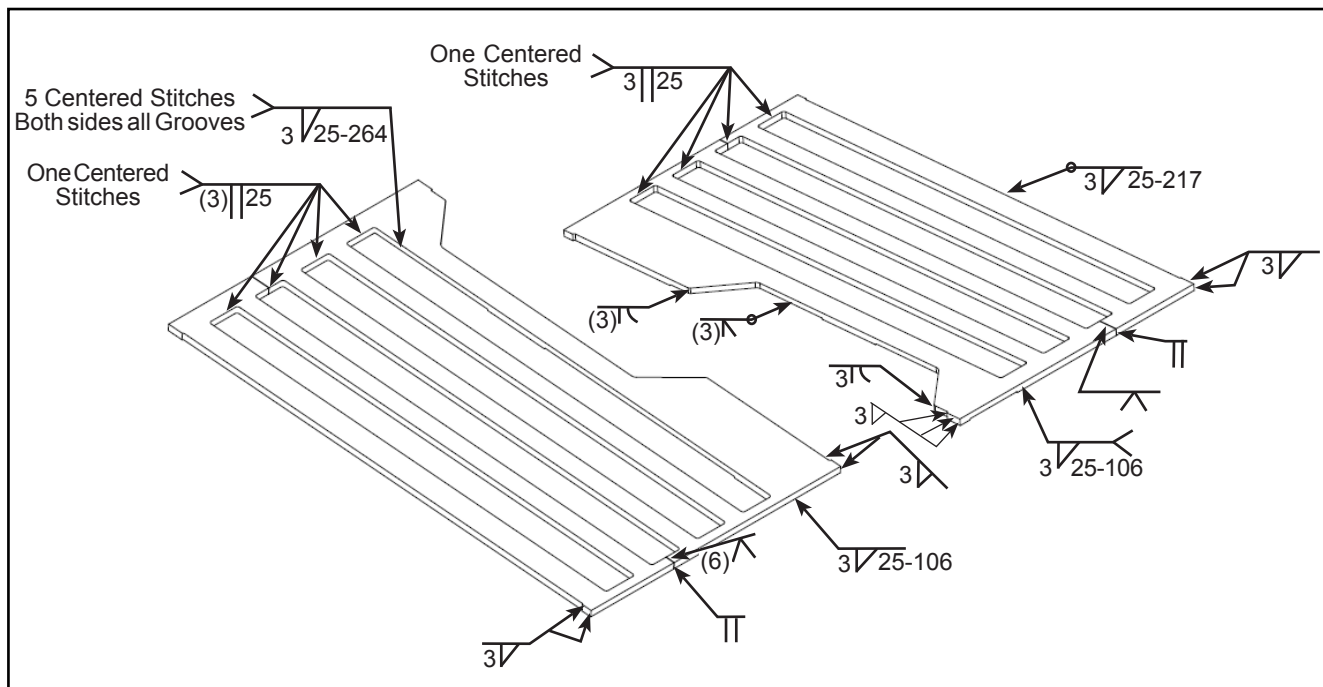

Figure 12 - Welding Specification
2.34. Weld braces in place as per weld specification shown (see Figure12).